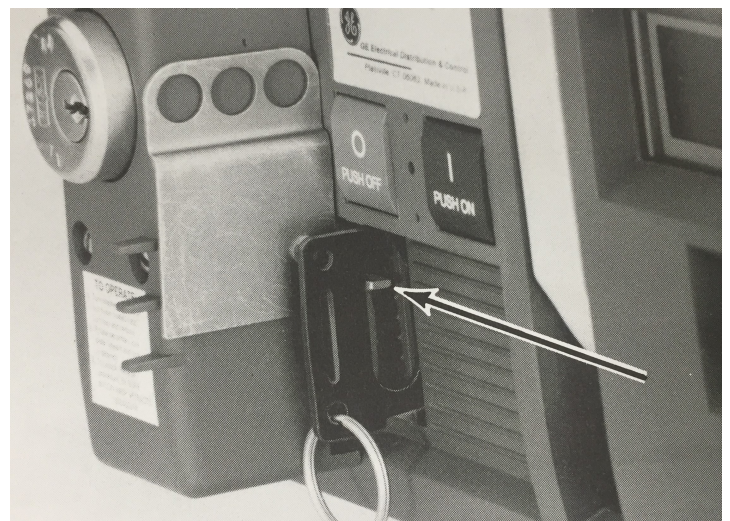

Figure 2. View of the breaker, showing the padlock hasp held extended by the Key Interlock.
3. Turn the key, securing the padlock hasp in the extended position, as illustrated in Figure 2. The breaker cannot be closed until the Key Interlock is disengaged.
12. Attach the split ring through the lower $\frac{5}{32}$ "-diameter hole in the nylon-coated hasp, as shown in Figure 2. (Omit this step if a Door Interlock, Cat. No. SPDIL, is installed.)